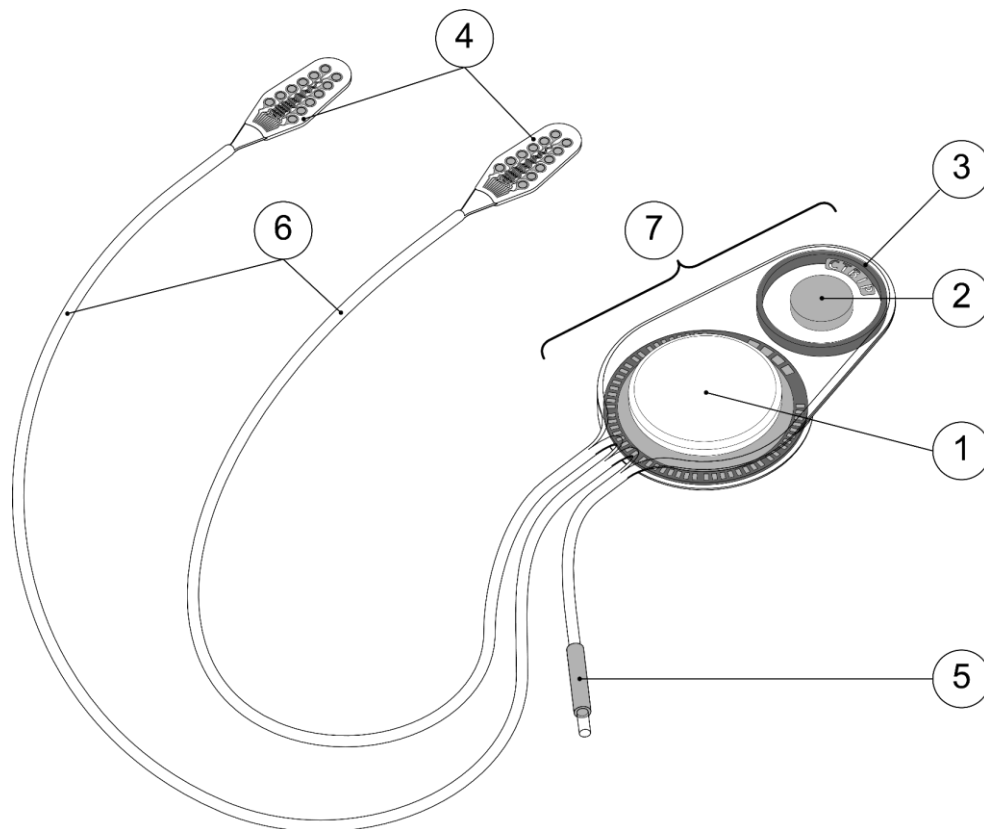

Figure 2: BIC Implantable Unit
The Implantable Unit (Figure 2) of the system is surgically implanted subcutaneously. The Implantable Unit consists of an Implantable Unit Body (7) placed in the cranial bone recess, a ground electrode which is placed subcutaneously and two grid electrodes which are placed subdural on the brain tissue.